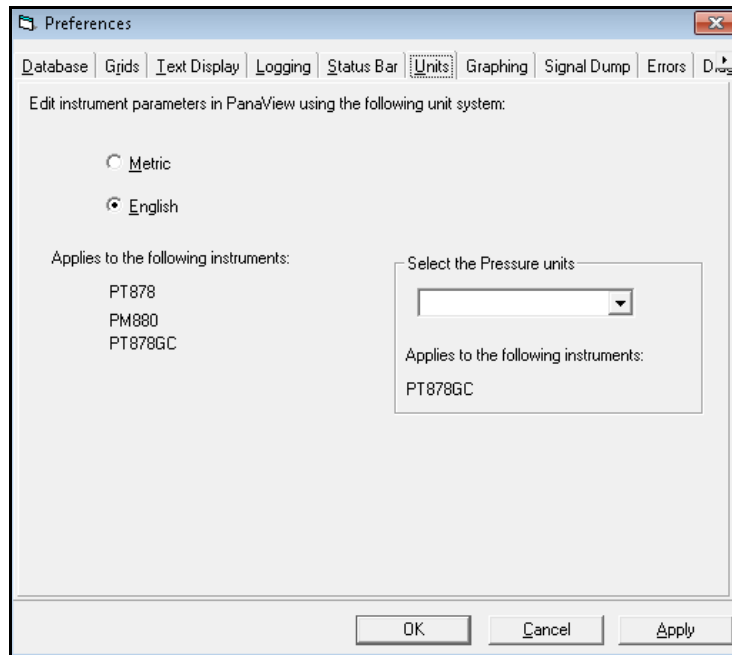

Figure 19: The Units Tab
- In the “Preferences” box, click the “Units” tab (see Figure 19 below) to display or edit the available units.